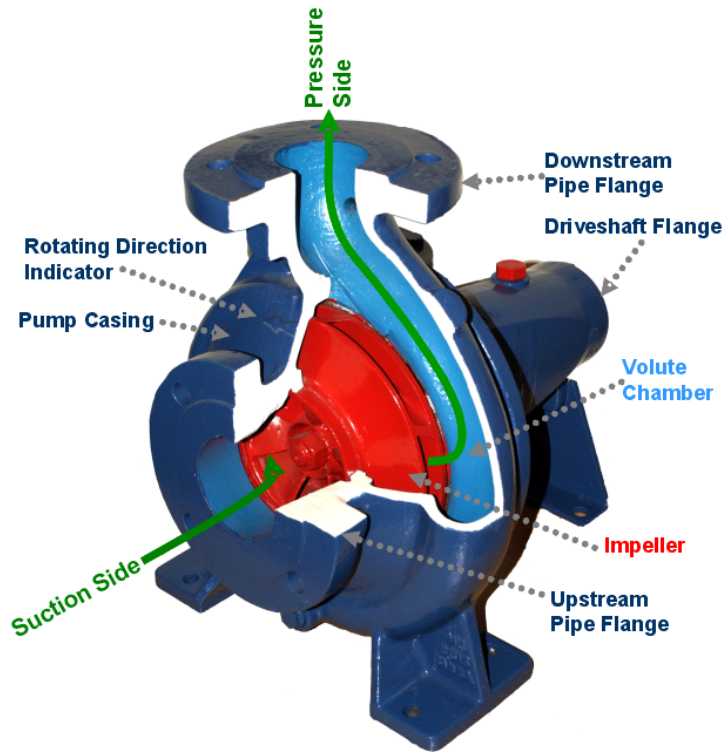

Figure 1: RS-485 - Typical configuration
- First you have to supply the pump with the necessary power. As described in the manual the XP3000 requires a *24VDC power supply* with a current rating of *at least 1.5A*. As seen in figure 1, during the development part, the power was supplied indirectly to the pump first by running the supply cables into a breadboard and then using extra jumpers to connect to pump pins #1 (power) and #9(GND)
- For the serial communication, you need to connect the RS-485A, RS-485B signals from the pump PCB into the RS-485+, RS-485- of the data terminal (PC) used for the communication. Take extra notice when it comes to connecting the jumpers from the serial adapter to the pump PCB corresponding pins